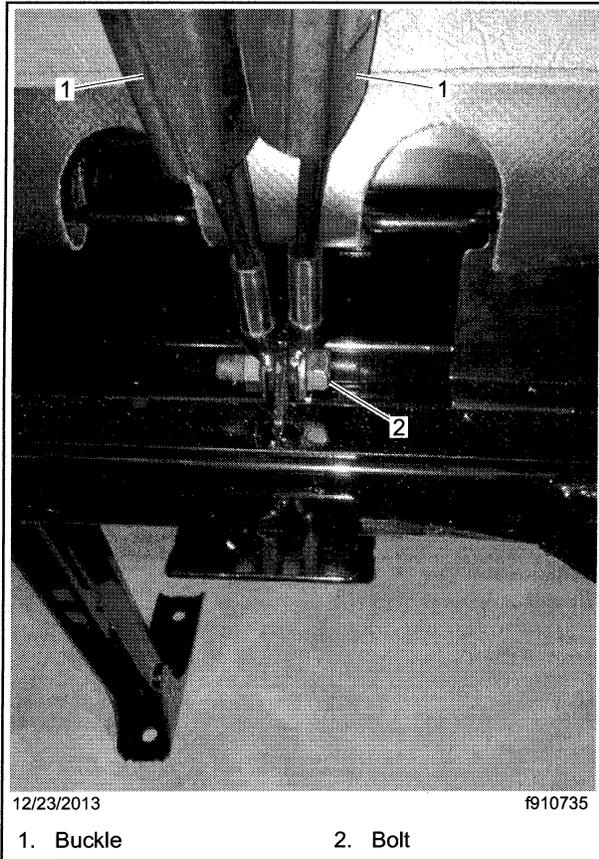

Fig. 8, Fixed Center-Mounted Buckles
1. Using a 5/8-inch ratchet and an 11/16-inch wrench, remove the nut and bolt from the mounting bracket. Remove both buckles. Based on the date code of each buckle, discard the suspect buckle(s). If one buckle has a "good" date code, retain it for reinstallation. See **Fig. 8**.